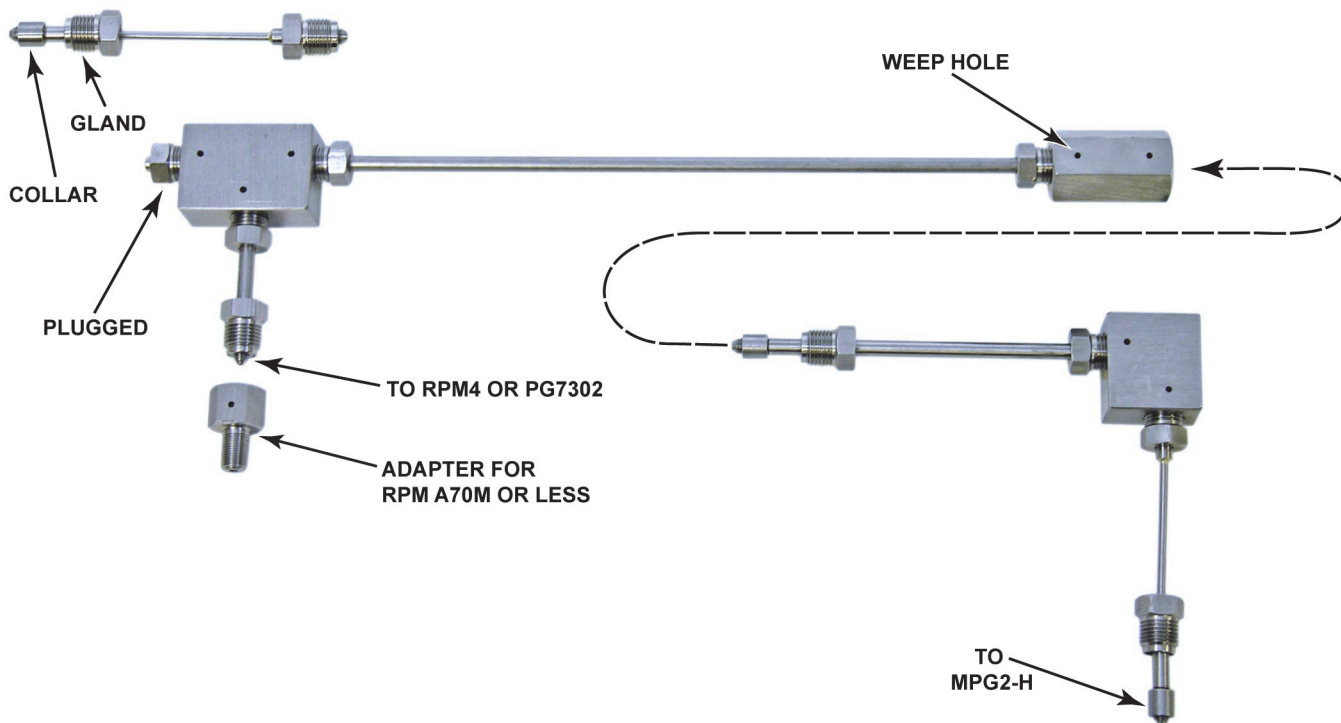

Figure 1: Nipples installed in 3-way tee, elbow and union
- 4 Install nipples into three way tee and elbow:** Install the 2.75 in. nipple into the center port of the three way tee. Install the 12 in. nipple (or 6 in. and 12 in. nipple assembly with union) into either of the end ports on the three way tee as shown in Figure 1. Install 5 in. flexible nipple into elbow. Install 12 in. or 6 in. nipple from tee into elbow. Tighten the nipples with a 5/8 in. wrench or crescent wrench. The flexible 5 in. nipple connects to the MPG2-H. The 2.75 in. nipple in the center of the tee connects to the RPM4 or to the PG7302. In Figure 1 the left port is currently plugged, but the remaining flexible 5 in. nipple can be installed in the left port and connect to the DUT.